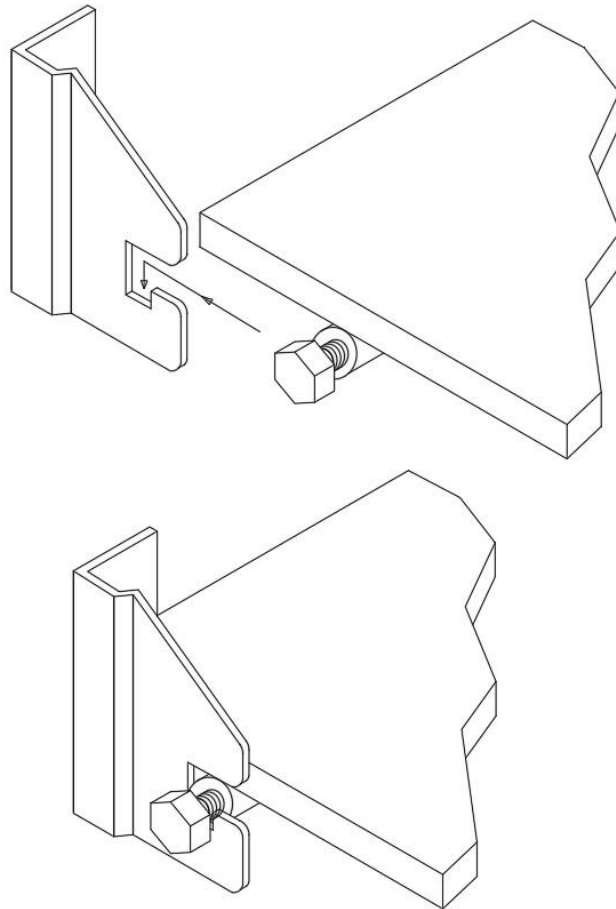

Figure 6.
- Place the rest bench into positions by situating the bolts into the slot in the front of the restbench brackets and pushing toward the back of the slot until you feel the bolts drop into the bottom of the slot as shown in Figure 6.